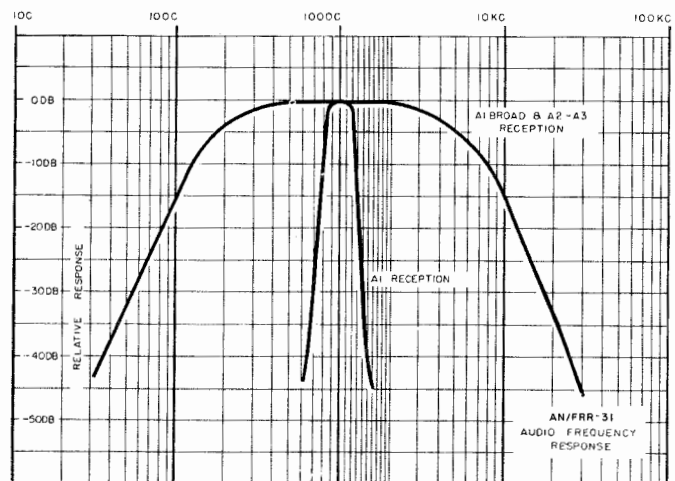
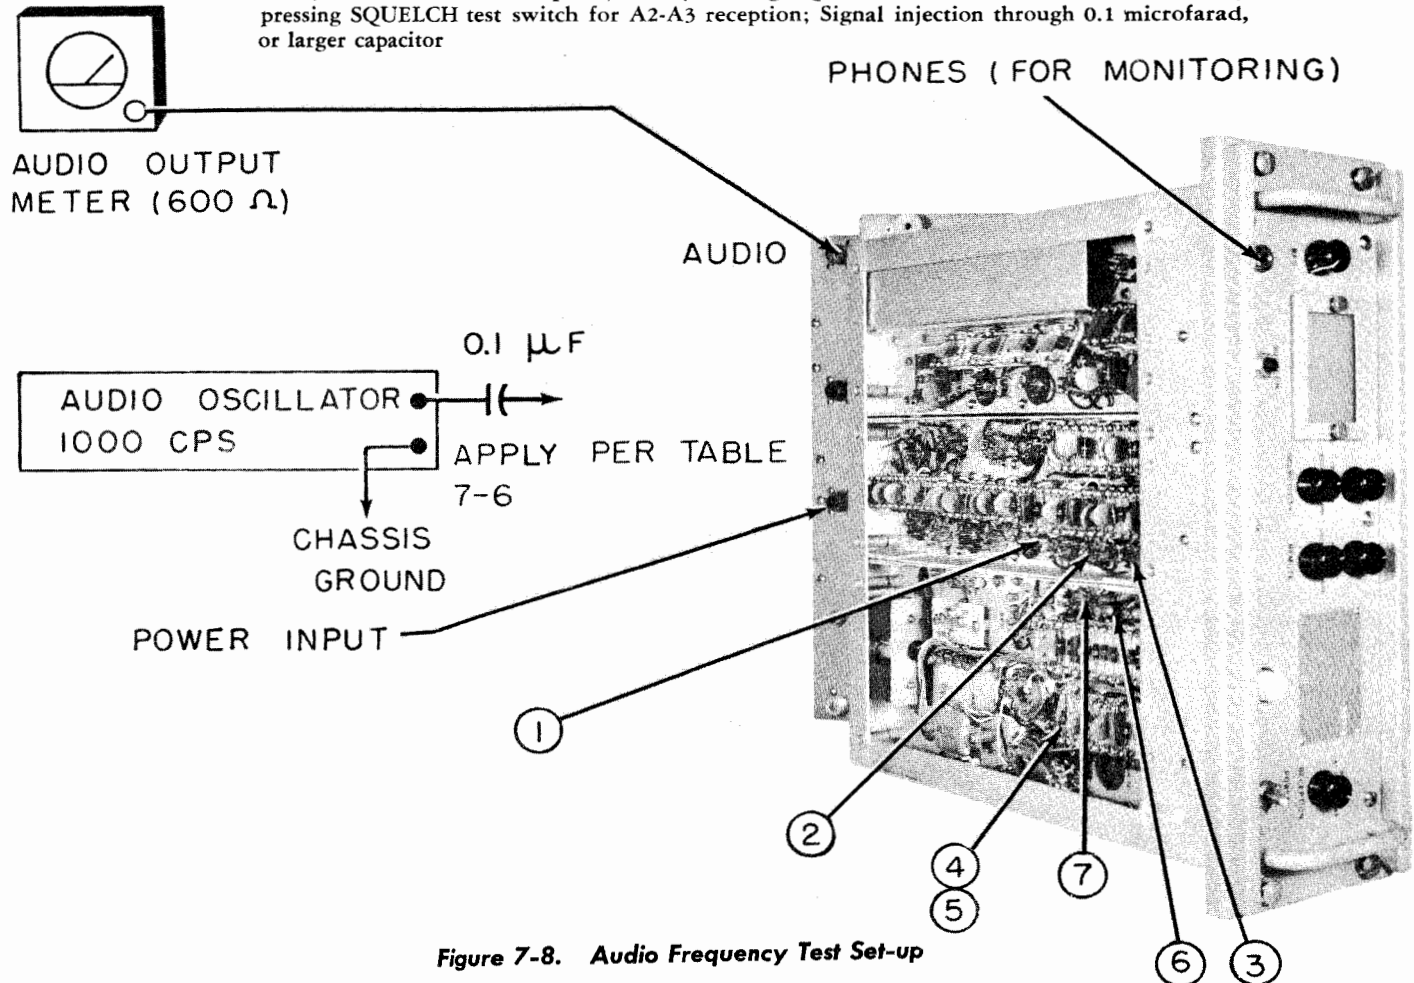
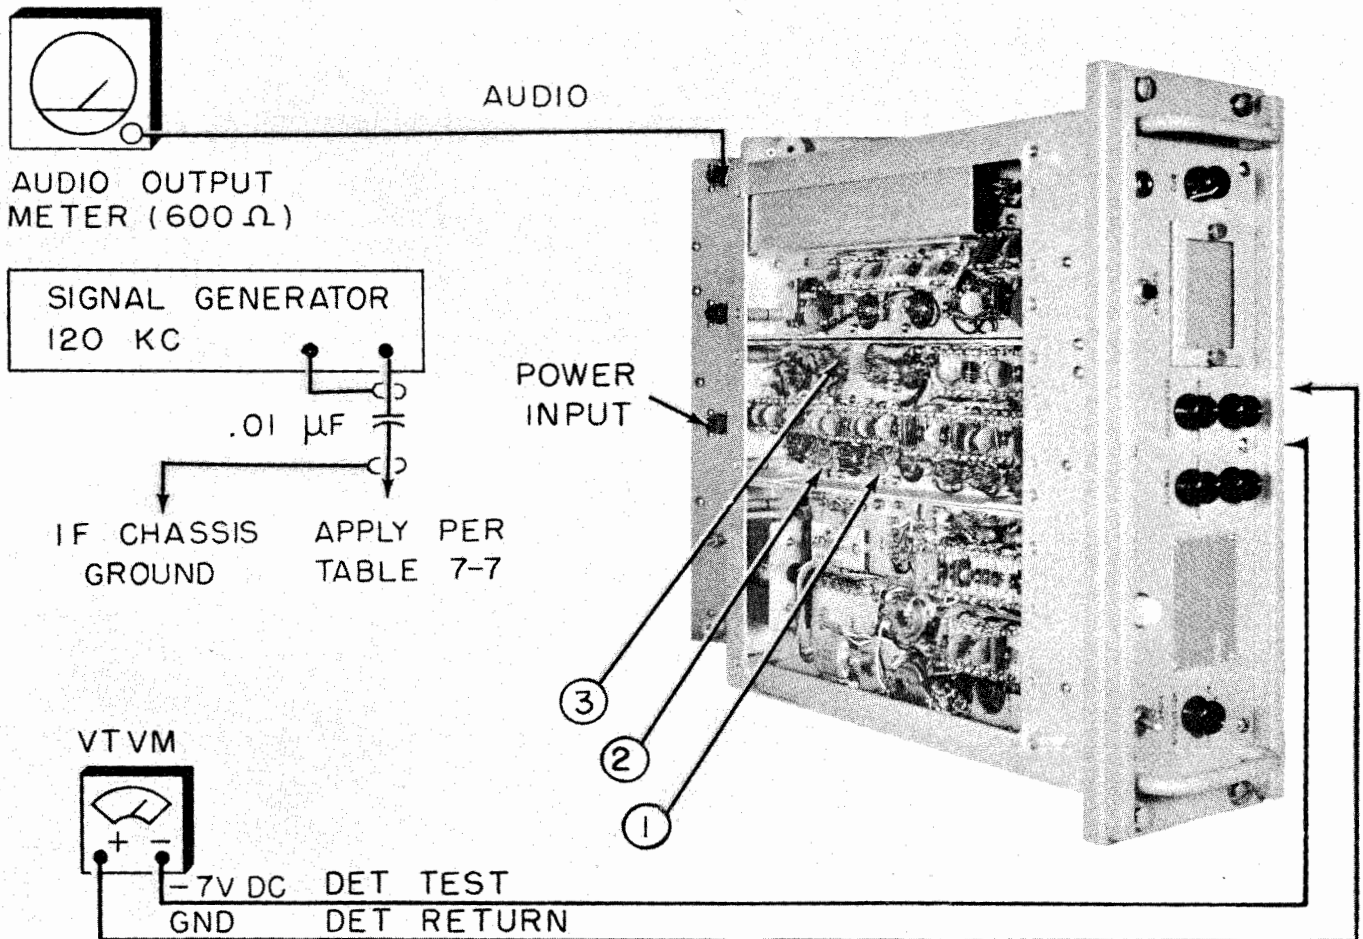

Figure 7-7. Audio Frequency Response
Figure 7-8. Audio Frequency Test Set-up
Figure 7-10. 120 Kc IF Test Set-up
(1) Connect a 600 ohm audio output meter across pins A and B of AUDIO receptacle (J505), located on the rear panel. The test set-up is shown in figure 7-8. Proceed with the test as outlined in table 7-6. The overall audio response is additionally indicated by figure 7-7.
located on the rear panel. The test set-up is shown in figure 7-10. Proceed with the tests as outlined in table 7-7. The over all audio response is additionally indicated by figure 7-7.